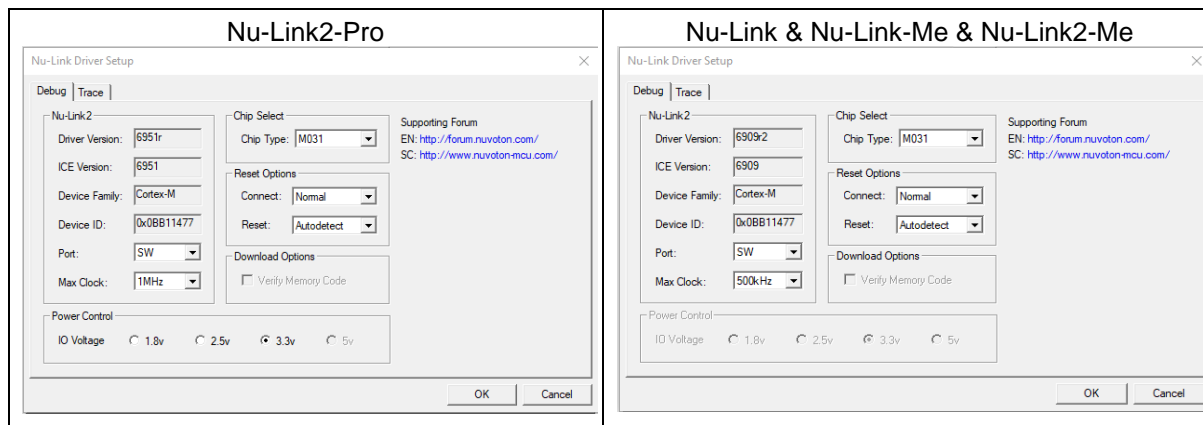

Figure 5.2-14 Nu-Link2-Pro Parameter Settings
- (4) Click the **Settings** button to open the *Debug* form, as shown in Figure 5.2-14. Refer to Table 5.2-1 for each setting description. The setting options shown in the Debug form may vary depending on the type of the Nu-Link2-Pro used.